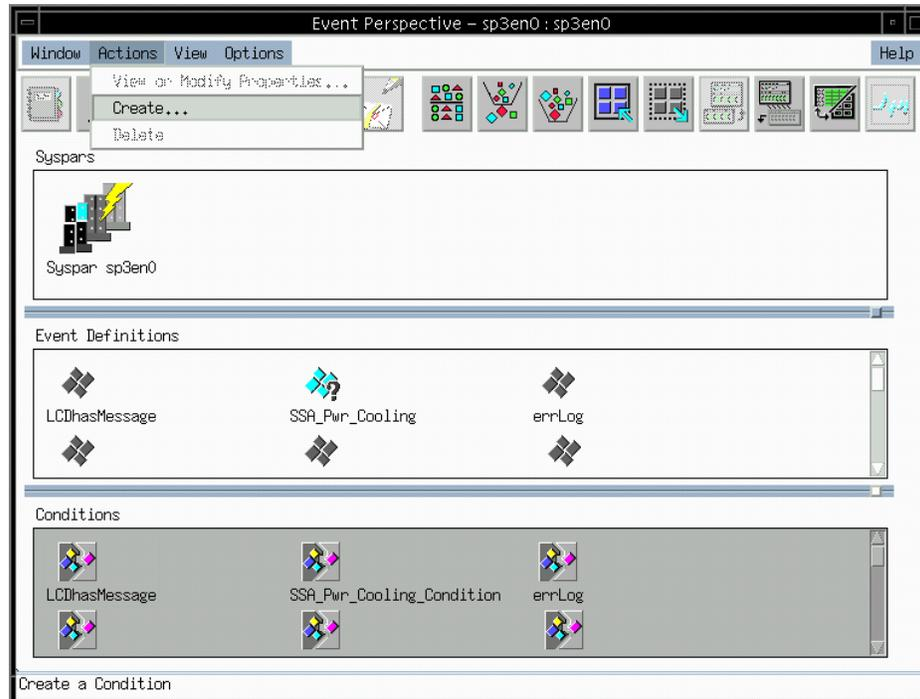

Figure 12-6 Create condition option from Event Perspectives
4. Create the condition. To do this, let us move the focus to the conditions panel on Event Perspective and then select **Actions** → **Create...** as shown in Figure 12-6.